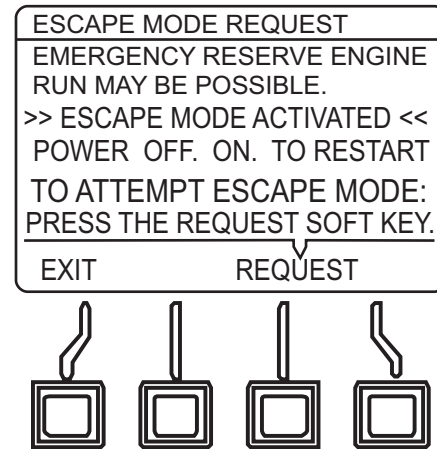

Figure 100. Escape Mode Activated Screen
7. Once the **[REQUEST]** button has been pressed, the display will indicate that escape mode has been activated (Figure 100).